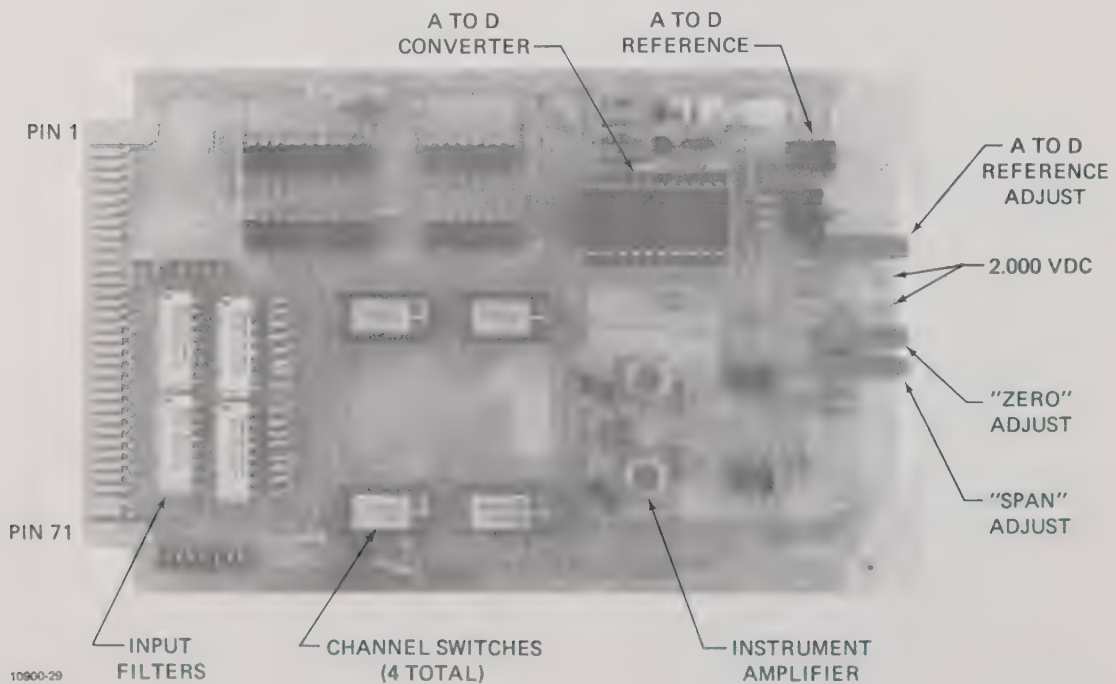

Figure 2.7 - Input Board
2.2.4 Input Board (See Figure 2.7)